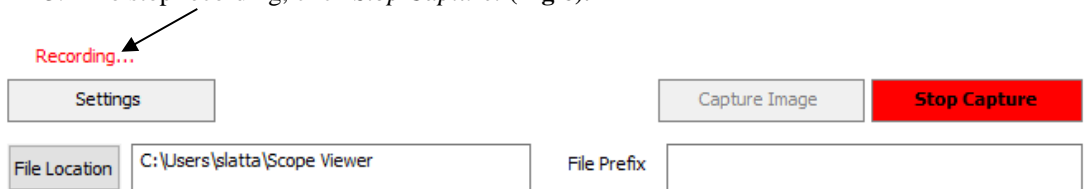

Figure 6
3. To stop recording, click *Stop Capture*. (Fig 6).